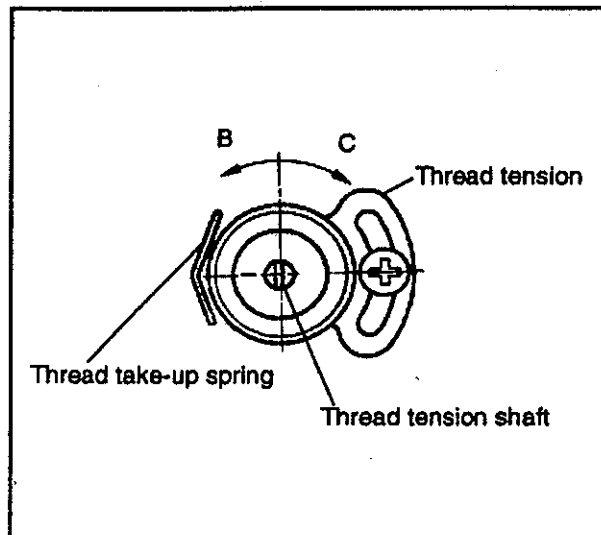

FIG.2
- (2) If the initial thread take-up spring tension differs from that specified, set a screwdriver into the thread tension shaft and turn it in either direction B or C for adjustment (Fig.2).